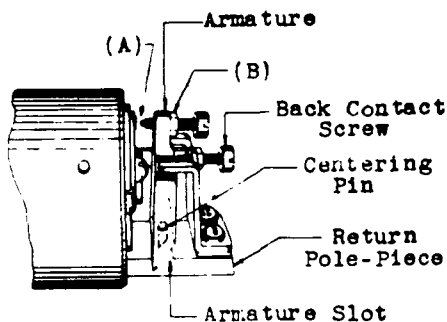

Fig. 4
- 2.08 Tightness of Lock Nuts - Fig. 4 (B) - The lock nuts shall be sufficiently tight to hold the screws in the adjusted position. Gauge by feel.
- 2.10 Contact Separation - Fig. 4 (A) - The separation between any pair of contacts normally open or between any pair of contacts that are opened when the relay is operated shall be